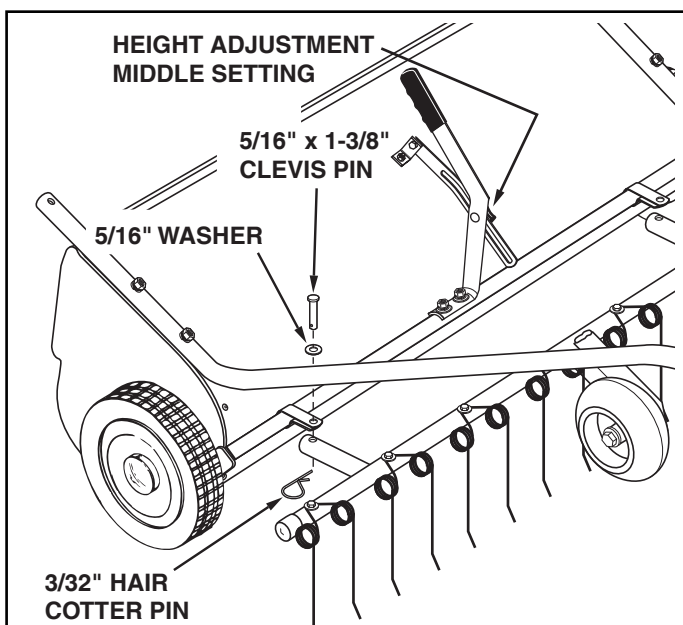

FIGURE 4
- Connect the dethatcher to the conduit clamps using two 5/16" x 1-3/8" clevis pins, 5/16" washers and 3/32" hair cotter pins. See figure 4.